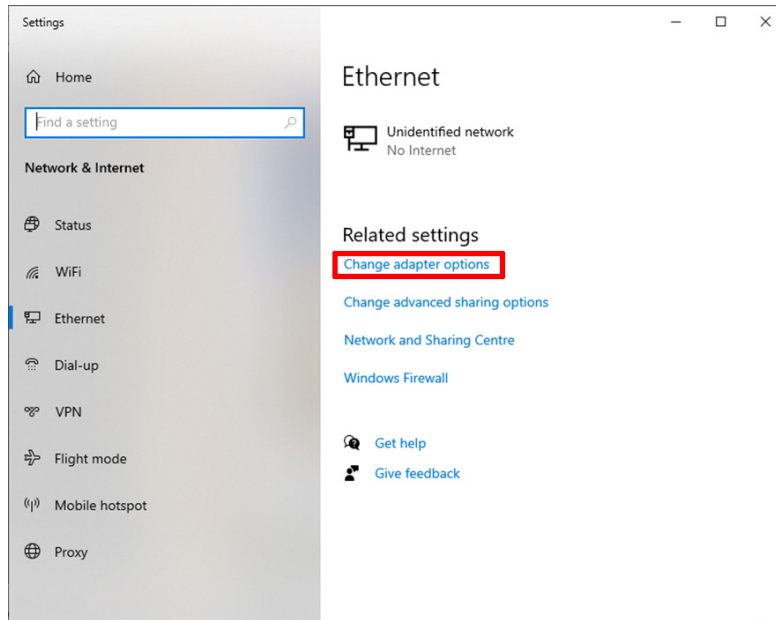

Fig. 4-2 Status screen
- 3) Click on the **Change adapter options** link. (See Fig. 4-2)